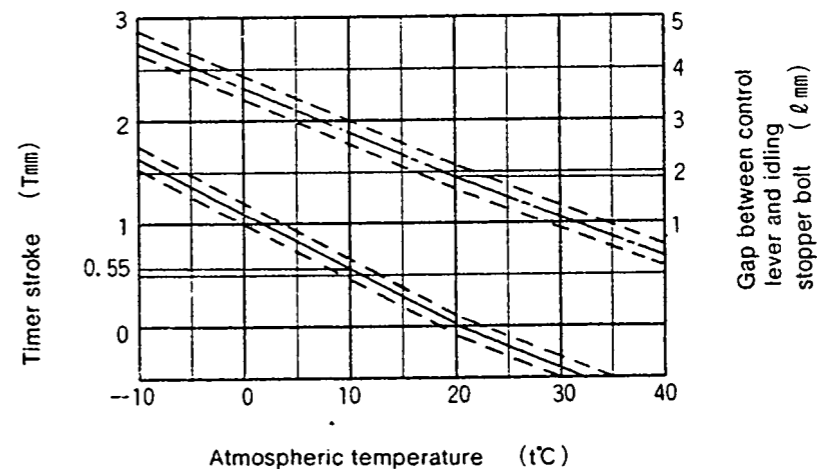

Fig 2.
1. Calculate the timer stroke from Fig. 2 according to the atmospheric temperature at the time of adjustment.
Formula for calculating Fig. 2
1. Calculate the block gauge dimension $l \pm 0.05$ mm from Fig. 2 according to the atmospheric temperature at the time of adjustment.